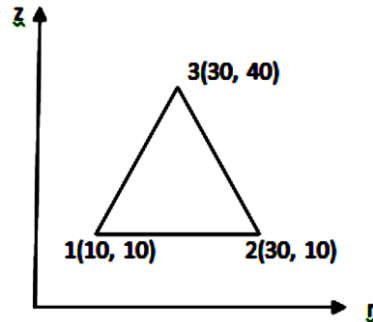

Figure. 4
- c) Calculate the stiffness matrix for the element shown in figure 4? Co-ordinates are given in mm. Assume plane stress conditions. Take $E=2.1 \times 10^5 \text{ N/mm}^2$, $\nu=0.25$, $t=10\text{mm}$. (8M)